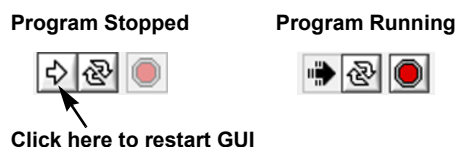

Figure 8. Restarting the GUI
3. Click **STOP GUI**. Next, click the arrow in the upper left of the screen to restart the GUI (see Figure 8). The GUI firmware window shows the firmware revision, and the green LED on the microcontroller board is illuminated.